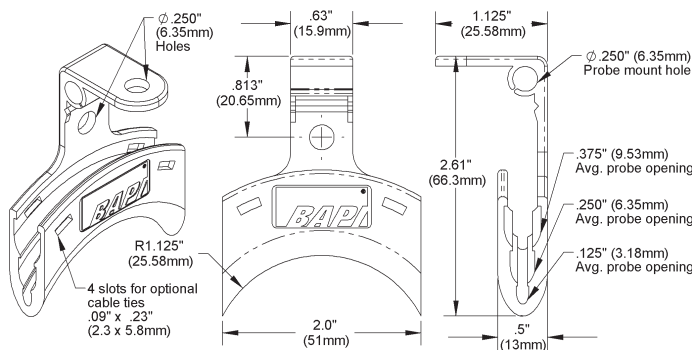

Fig. 6: Flexible Probe Bracket (BA/FPB) (Order Separately)
The BAPI Flexible Probe Bracket (Fig. 6) is used to mount averaging sensors. It makes a smooth arc at direction changes to eliminate the risk of kinking.
2. Insert the probe by unrolling it into the duct carefully to avoid kinking. Serpentine the probe at least twice across the stratified air in the duct to achieve the best average temperature reading. At the probe reversing points, a BAPI Flexible Probe Bracket (Fig 6) can be used to support the sensor, avoid kinking and provide isolation from the duct wall.